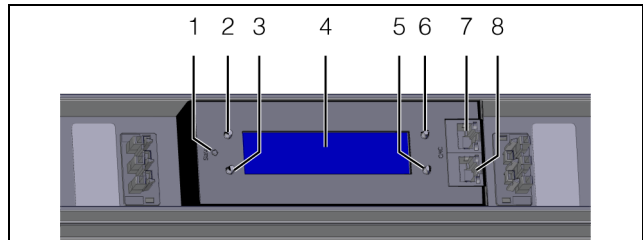

Fig. 4: Display and operating elements
- Connect the PSM metering bar using a CAN bus connection cable with a CAN bus interface of the CMC III Processing Unit or of the neighbouring component in the CAN bus (fig. 4, item 7). After a short delay time, the status screen appears on the display of the PSM metering bar and the unit is operational.
- If necessary, connect another component to the second free CAN bus interface of the PSM metering bar (fig. 4, item 8), such as a sensor from the range of CMC III accessories.